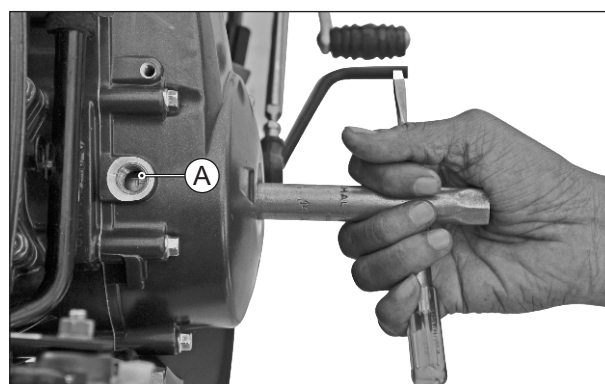

Fig. 2.54
- Align the TDC mark (A) on rotor assembly with centre of the inspection hole provided in the cover magneto by rotating the rotor assembly. (Fig. 2.54)